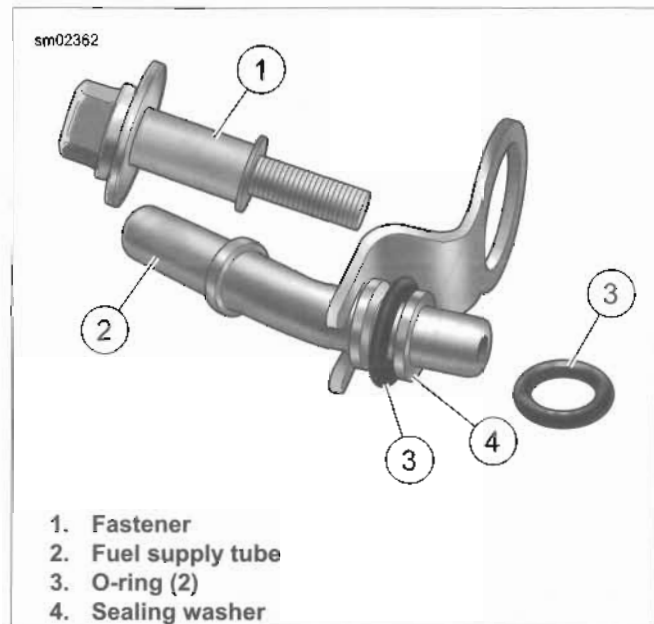
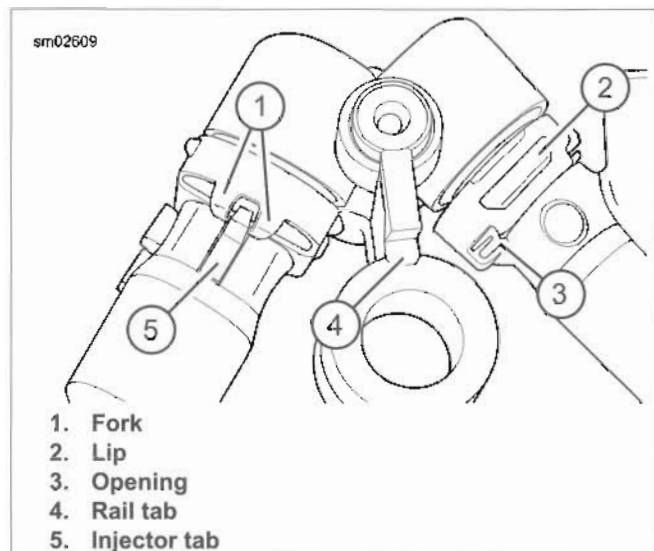

Figure 4-30. Fuel Supply Tube
Figure 4-31. Fuel Rail
2. See Figure 4-30. Remove fastener (1) retaining fuel supply tube (2).
3. Pull fuel supply tube from fuel rail. Remove sealing washer (4) and O-ring (3) from fuel supply tube. Remove second O-ring from fuel rail bore. Discard sealing washer and O-rings.
4. See Figure 4-31. With a rocking motion, pull fuel injectors with attached fuel rail from the induction module.
2. See Figure 4-31. Push electrical connector side of fuel injectors into fuel rail.
3. With the concave side toward the fuel rail, install spring clip into slot on fuel injector. In the installed position, openings (3) in sides of clip engage lip (2) on fuel rail, while fork (1) at back of clip captures rail tab (4) on fuel injector.
5. See Figure 4-30. Slide **new** O-ring (3) down shorter neck of the fuel supply tube until it contacts the collar. Slide **new** sealing washer (4) down tube until it contacts O-ring. Install second O-ring (3) in fuel rail bore.
6. Push fuel supply tube (2) into fuel rail bore until clamp is seated on round step of fuel rail. Install fastener (1) and tighten to 90-110 **in-lbs** (10.2-12.4 Nm).